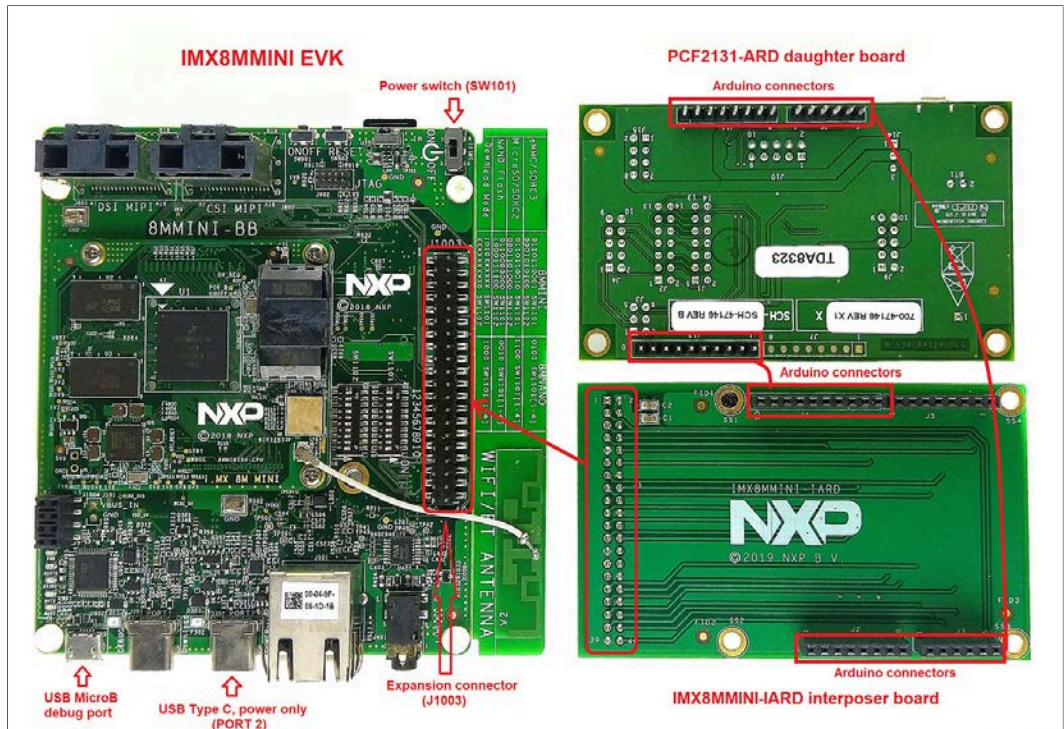
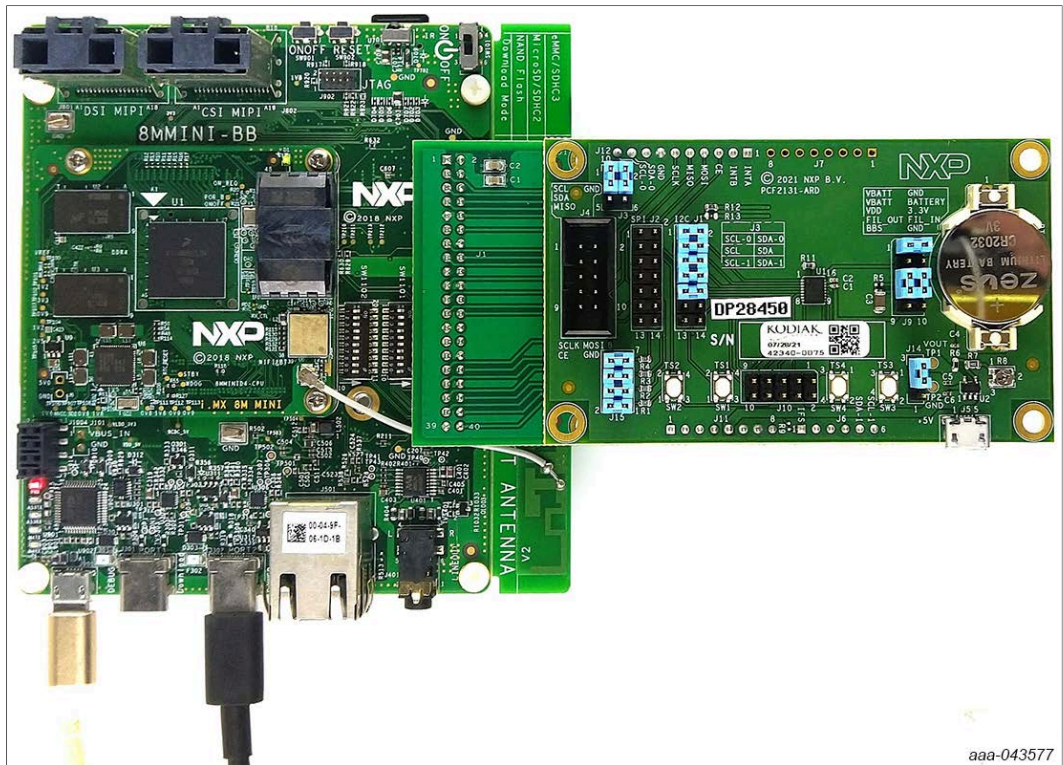

Figure 12. The assembly PCF2131-ARD daughterboard, IMX8MMINI-IARD interposer board, and i.MX 8M Mini LPDDR4 EVK, before getting to start
Figure 13. PCF2131-ARD daughterboard / i.MX 8M Mini LPDDR4 EVK board operation
To operate the setup, along with the EVK and the daughterboard, a third board must be included in the setup assembly. Figure 12 shows the necessary boards and how these boards are connected. The configuration consists of:
To power-up the EVK, a USB-C type cable connected to PORT 2 of the EVK is used. The power switch SW101 on the EVK board must be set to ON position to power-up the setup. Data communication is achieved by routing a separate USB (Micro-B type) cable from a USB port on the PC to debug port (J901) on the EVK (see Figure 12 and Figure 13).
2. Attach IMXMMINI-IARD connector plug J1 (located on the bottom of the board) into J1003 expansion board located on the top side of i.MX 8M Mini LPDDR4 EVK (see Figure 12)